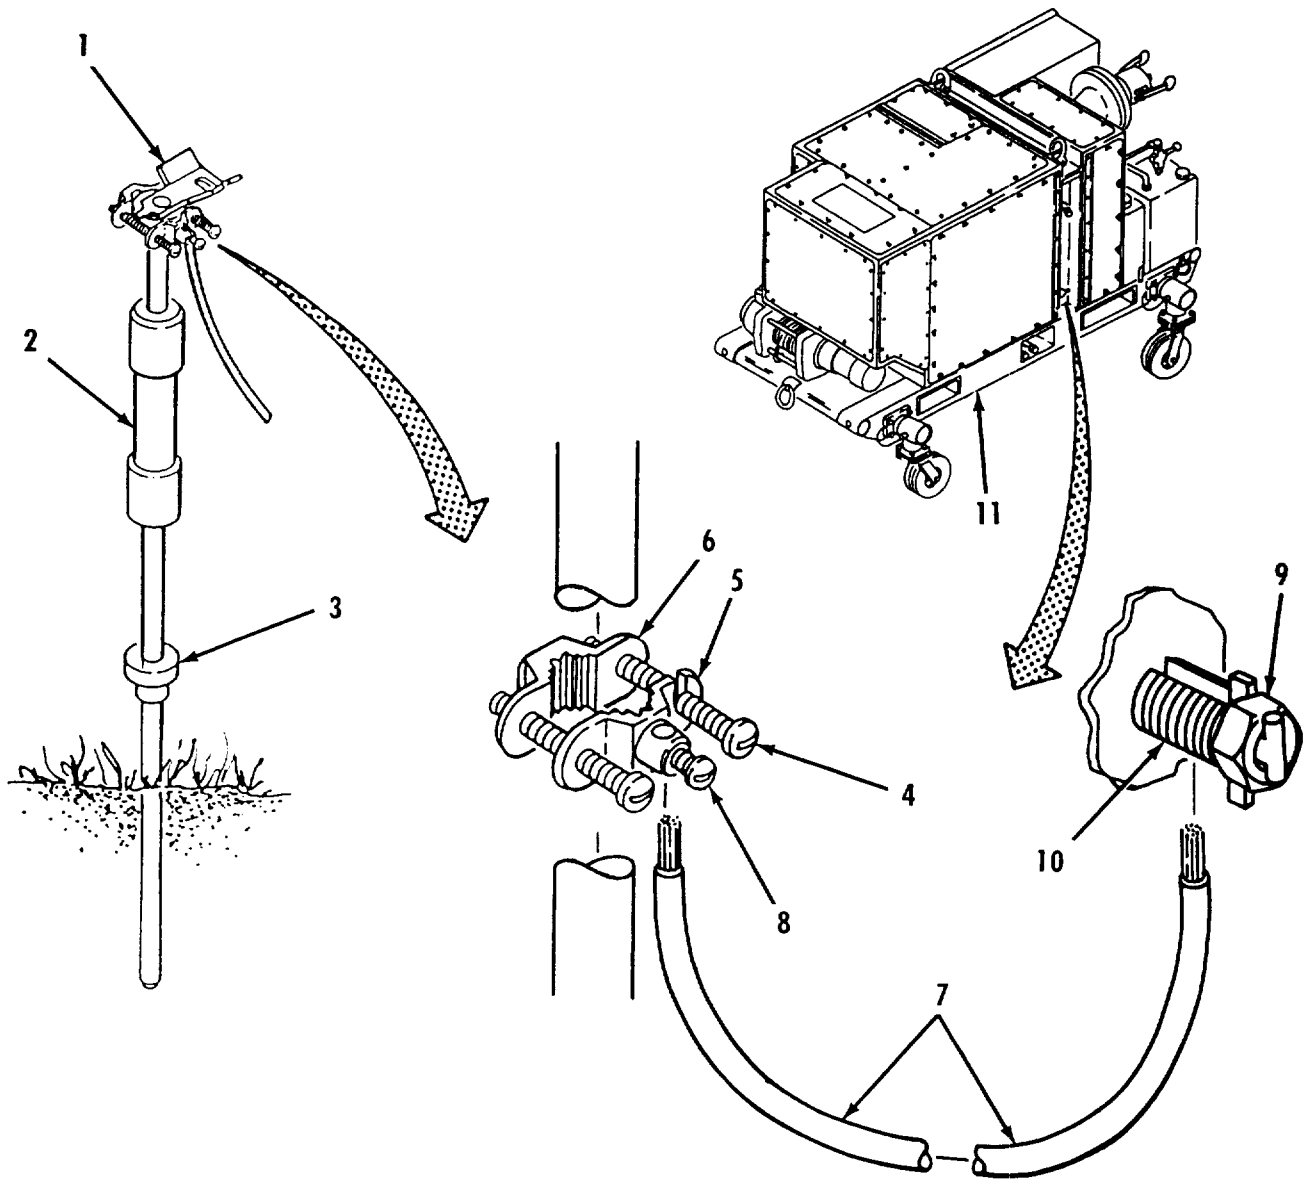

Figure 2-27. Primary and Secondary 600 GPM Pump Ground Rod Installation.
- s. 600 GPM Pump Ground Rod Installation. Refer to figure 2-27.